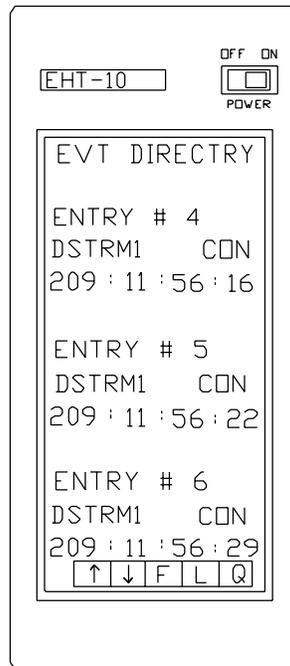

Figure 14 Event Directory Screen
- * Press **Evt Direc** on the Utilities Functions menu. FST displays a message reading "Requesting Directory Information," then displays the event directory, as shown in figure 14.